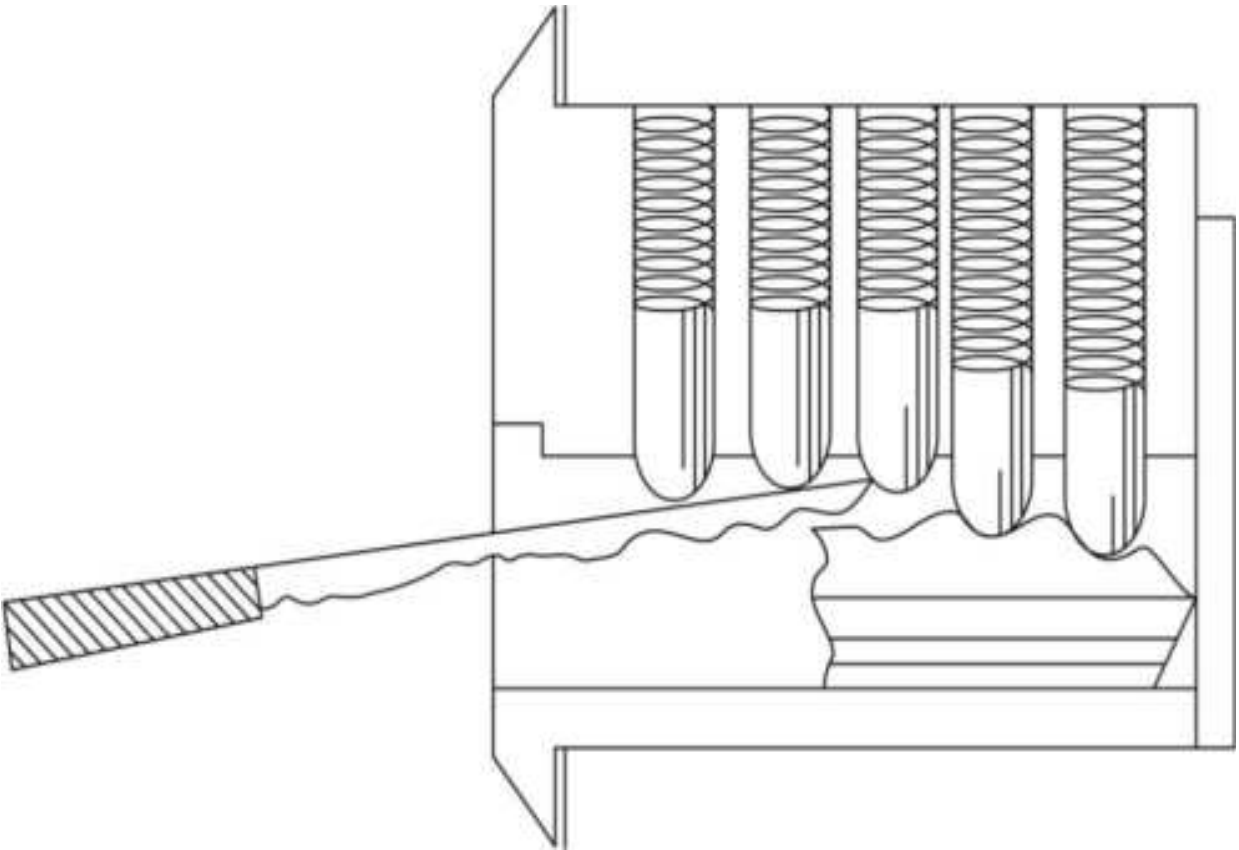
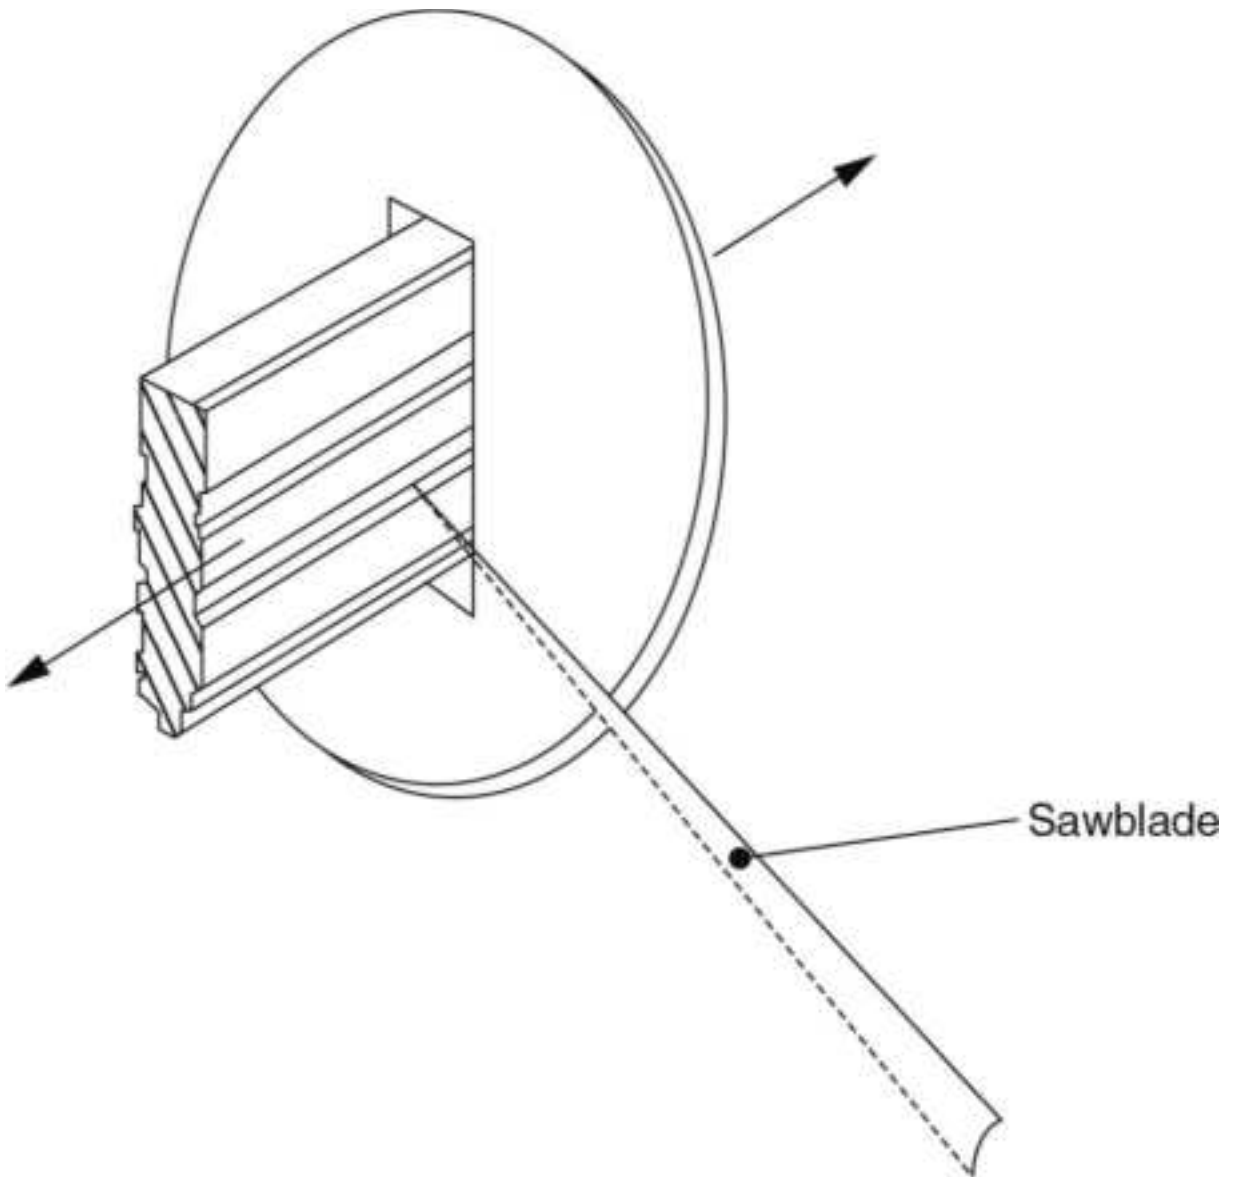

**Figure 13.168** Insert a broken key extractor under the bottom pins to hook a broken key.
**Figure 13.169** If a broken key protrudes from the cylinder, use a sawblade type of broken key extractor.
**Extracting Broken Keys.** If a broken key is so far down the cylinder that you can't see it, then use a screwdriver to turn the cylinder to the open position (the position the key usually enters at). Then use a broken key extractor to hook the top of the broken key, and work it back out (Fig. 13.168 ). If part of the broken key is protruding from the lock, again turn it to the open position and then use a saw blade type of extractor to work the broken key back out (Fig. 13.169 ).